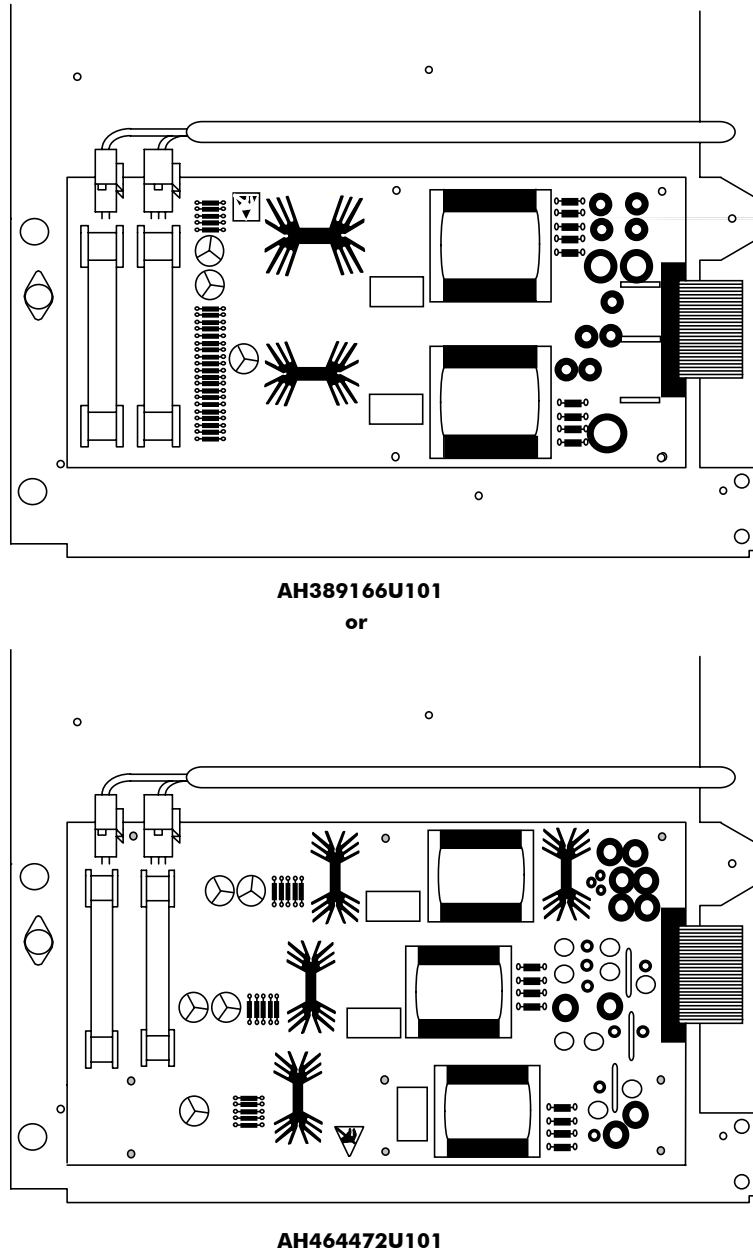

Figure 9.2 SMPS PCB's
2. The SMPS PCB may now be viewed on reverse side of hinged panel as shown in figure 9.2.